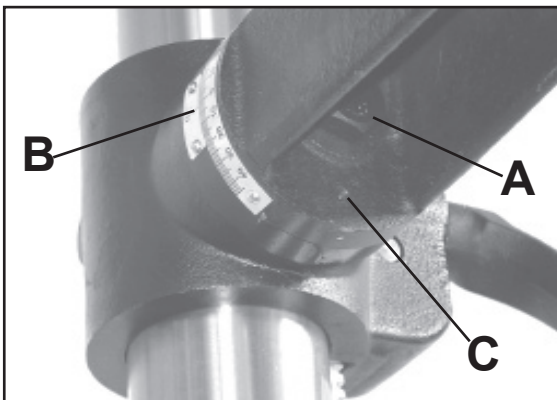

Figure 16
1. Install the arm onto the table support with hex bolt(A-Fig.16) and make sure the scale is on zero position(B-Fig.16). If necessary, adjust the hex socket screw (C-Fig.16) to lever the table 90 degree to the spindle.